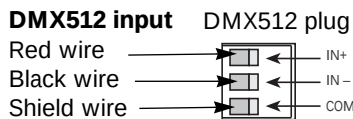

Figure 38: DMX512 connections
10. Insert the red DMX512 wire into the In+ wire termination on the DMX512-In connector. See Figure 38